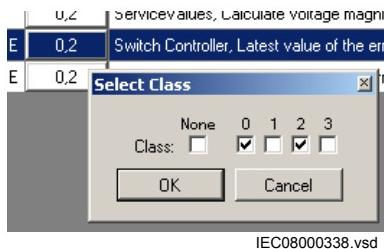

Figure 81: CMT: Select Class window
3. Make the selection according to the definitions in the project and click *OK* to close the window and get the new configuration, see Figure 81.